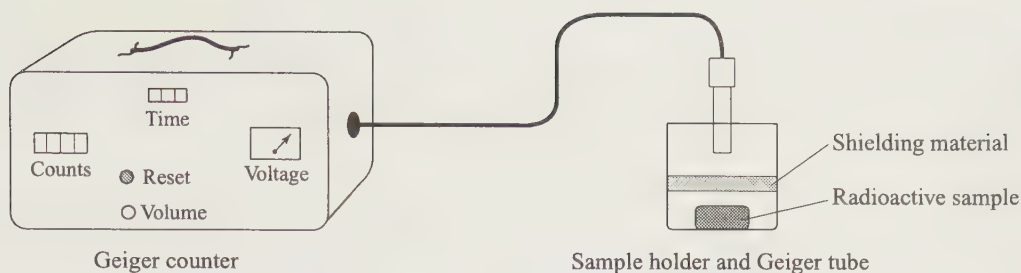

FIGURE 2
6. Place various shielding materials, one at a time, directly over the sample and then hold the Geiger tube against the shielding material, as shown in Figure 2. Record the 1 minute counter reading obtained with each separate shielding material. Be sure to reset the counter with each shielding material being tested.